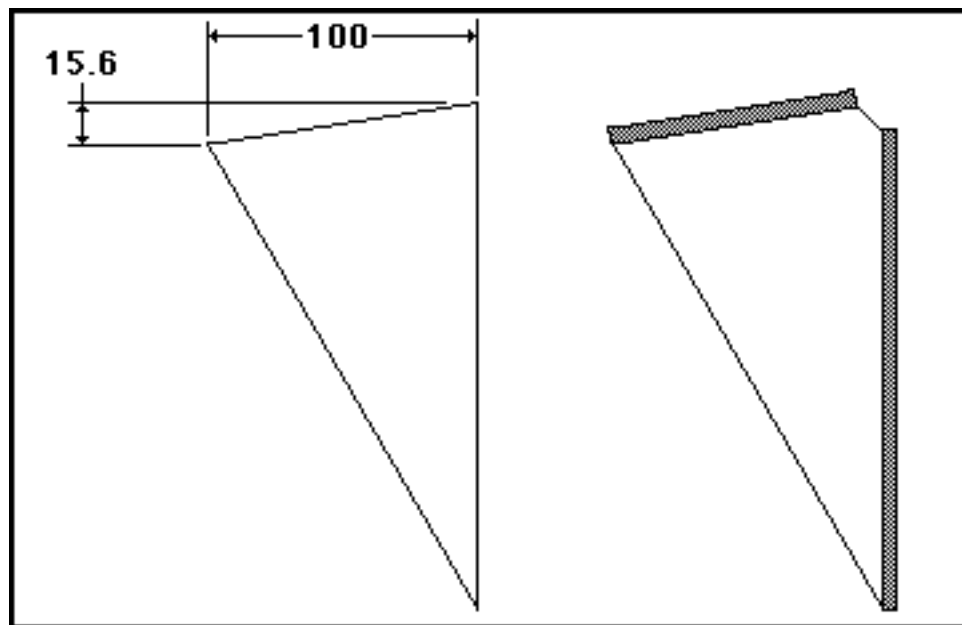
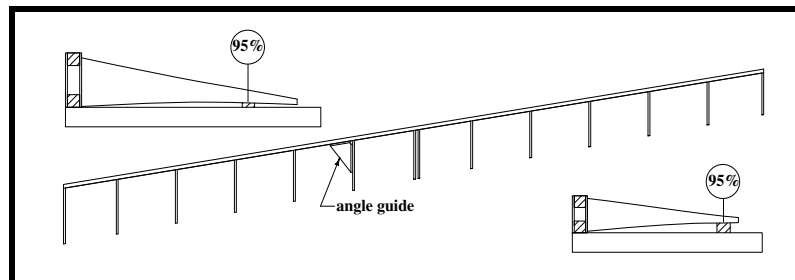

Figure 6
Figure 7
- ❑ Make a number of angle guides for the ribs by cutting some scrap pieces of wood to 81.1°—use the method shown in Figure 6 if you do not have a protractor. These will be used to align the ribs with the spar as shown in Figure 7. Glue some scrap pieces of plywood to each face as shown on the right side of Figure 6. The short face will be clamped to the forward or aft face of the spar. The ribs will be clamped to the long face of the angle guide. The length of the long face not terribly important—150mm will be fine. Cut the corner away so that glue squeeze-out will not glue the angle guide to the ribs and
spar. You might as well make a lot of these angle guides so that you will not be slowed down by a lack of them—12 would be ideal. You should also make two angle guides with an angle of 98.9° to clamp against the outboard face of the Sta. 2 flap trailing edge rib. Use the same method shown in Figure 6 and extend the angled line to the right. The angle guides will also be used to brace the leading edge ribs when sanding for the leading edge strip. You will need to modify these slightly to clear the channel-nuts.
- ❑ Install the trailing edge ribs on the aileron/flap spar. See Figure 7. Clamp an angle guide to the spar and each rib to hold the rib at the correct angle. Use the angle guide to set the angle of the table on a stationary disc/belt sander when you sand the ribs to match the spar.